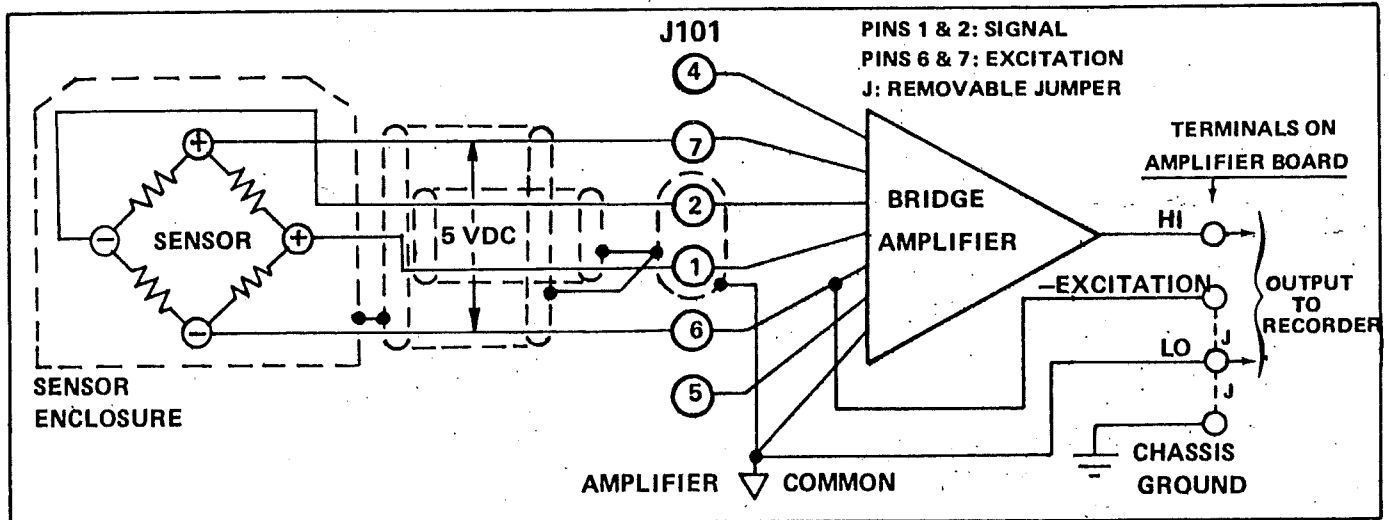

FIGURE 2-2 TYPICAL SIGNAL CONNECTIONS
1. For most applications, with both the sensor and sensor enclosure floating, both dotted jumpers shown in Figure 2-2 should be in place.